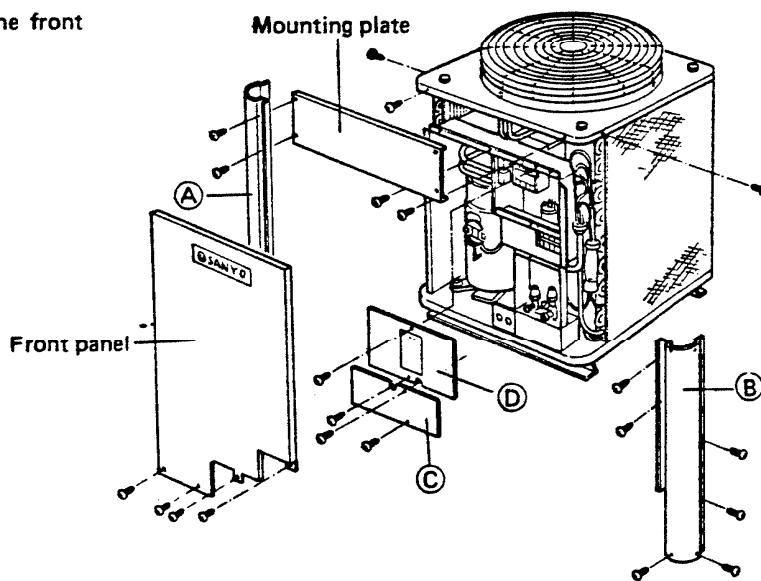

Fig. 19
- 3) Remove the mounting plate. Fig. 19
- 1) Many wires have to be removed. When removing wires, carefully check the electric diagram on the rear side of the cover plate (D). Fig. 19